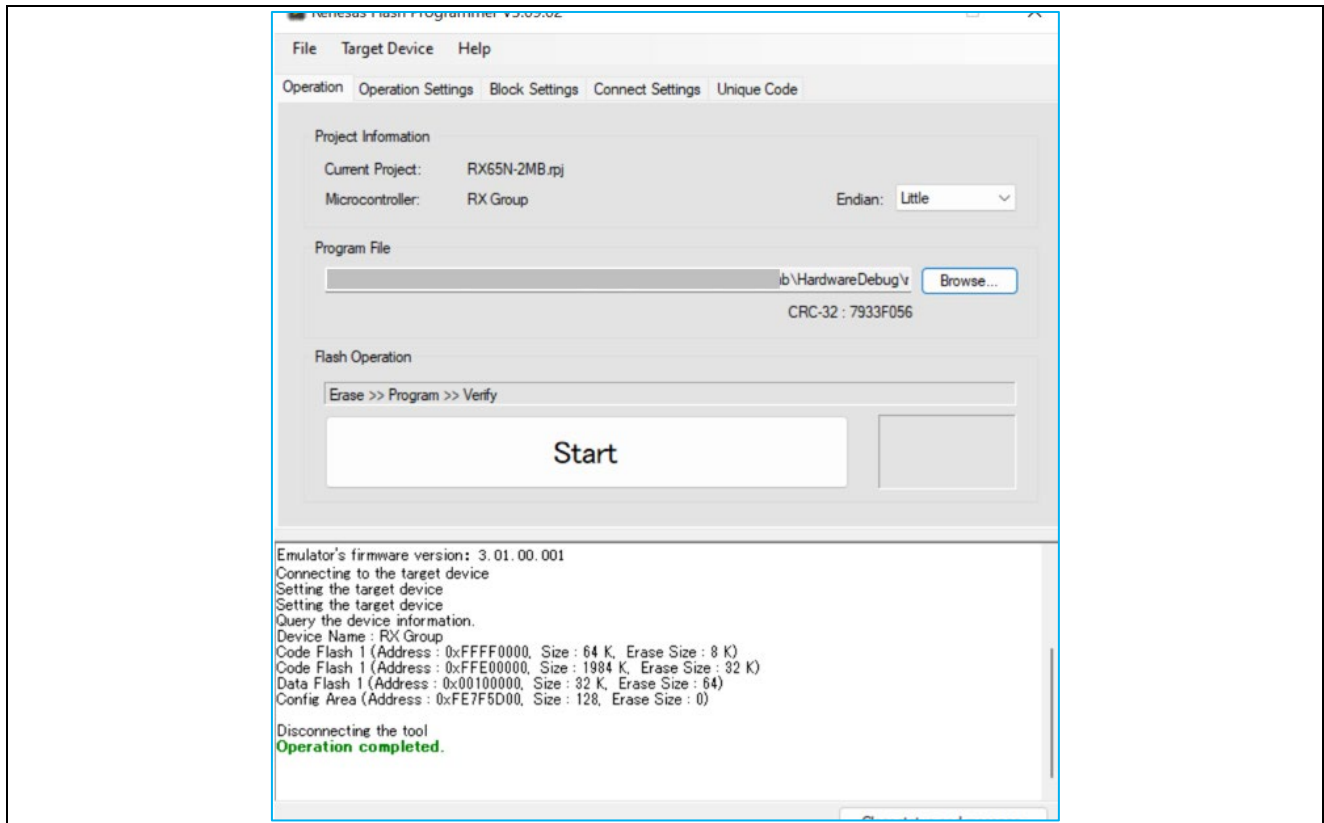

Figure 3. The Main Window of Renesas Flash Programmer After Creating a New Project
| Figure 3. The Main Window of Renesas Flash Programmer After Creating a New Project | 9 |
7. Verify the message **Operation Complete** is printed in the main window. Under Program File, click Browse to choose to the program file that will be flashed onto the board (Figure 3). Using the file explorer window, navigate to the example project's **ryz014a_rx65n_2mb.hex** file and click Open.